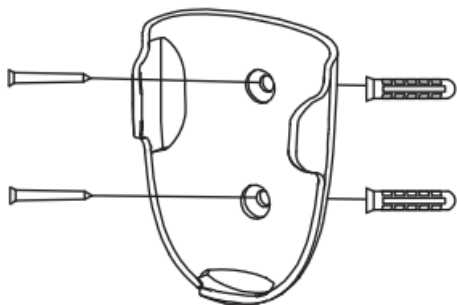

Fig. 10a
1. Locate a suitable wall to fix the remote controller holder with the 2 screws & 2 Anchors. (Fig.10a).